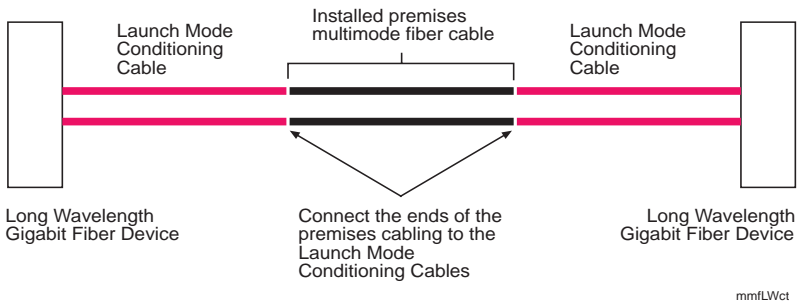

Figure 2-5 Launch Mode Conditioning Cable Connection for the HSI-M-G09
1. Connect Launch Mode Conditioning cable to the multimode fiber on both ends of the premises cable before connecting the HSI-M-G09 to the premises cabling. See Figure 2-5.